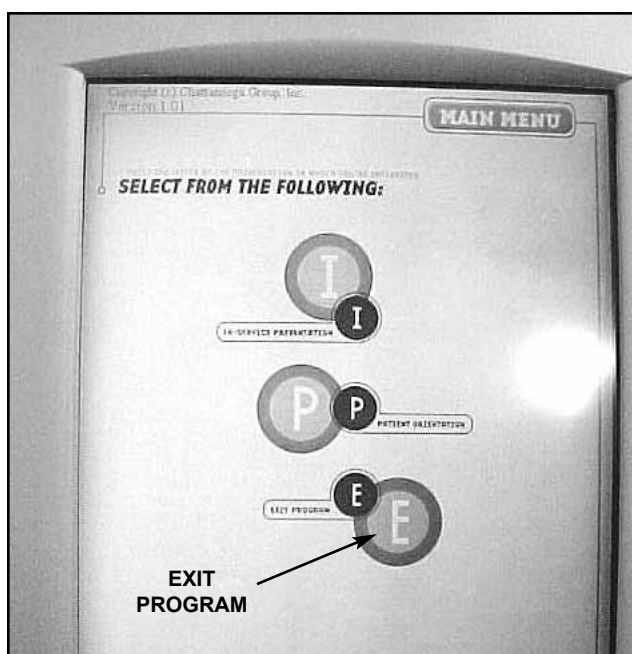

FIGURE 5.33
5. Press "Multimedia Presentation". Listen and watch the introduction of the multimedia presentation until the window in Figure 5.33 is displayed.